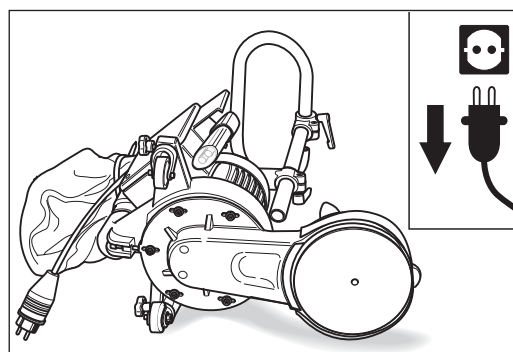

Fig. 44 Place the UNICO down on the **left-hand** side only.
- Always** set the UNICO down on the **left-hand** side (Fig. 44)! This will prevent damage to the floor.
**Always** set the UNICO down on the **left-hand** side (Fig. 44)! This will prevent damage to the floor.